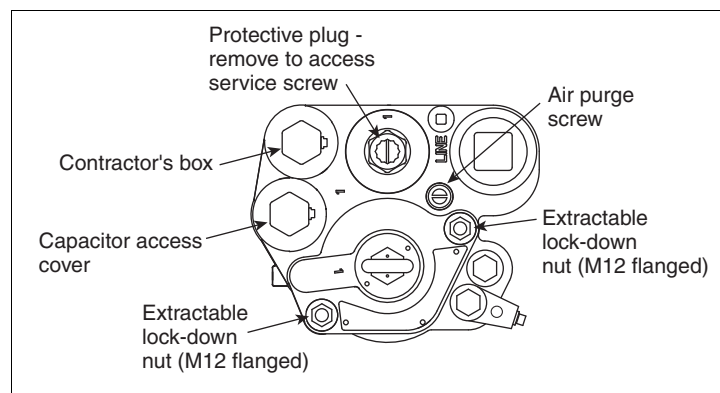

Figure 26. Extractable Lock-down Nuts
2. Remove the two extractable lock-down nuts and discard them (see Figure 26). The springs on the lock-down studs between the extractable's flange and the manifold will push the extractable up, breaking the seals.
- Turn the air purge screw 2 - 3 turns counterclockwise (see Figure 26).
- Remove and save the protective plug over the service screw and turn the screw clockwise (see Figure 26 on page 31). As the screw approaches its bottom position, you will hear the system depressurizing. Continue turning the screw until it can go no further. When the screw is all the way down, backoff the screw 4 turns to lift the check valve and let the fuel drain out of the manifold's hydraulic cavities. Continue to turn the screw counterclockwise until you hear the check valve drop down into position.
8. Open the air purge screw 2 - 3 turns counterclockwise (see Figure 26).